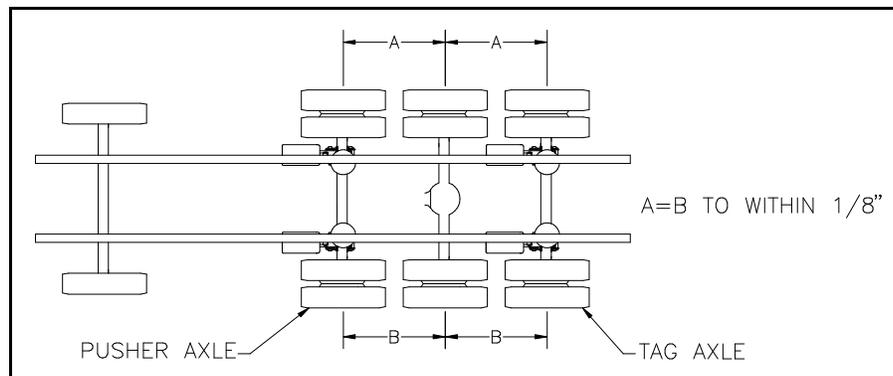

Figure 6-2
3. Measure from the truck chassis front drive axle (or rear drive axle for tag type axle) to the top of kingpin housing (common point on both sides of axle). Move the free beam fore or aft until both sides are equal distance to drive spindle. A total maximum alignment tolerance of 1/8" is considered acceptable. If additional axle movement is required remove tack weld performed in step 2 and adjust axle as required. (See Figure 6-2)